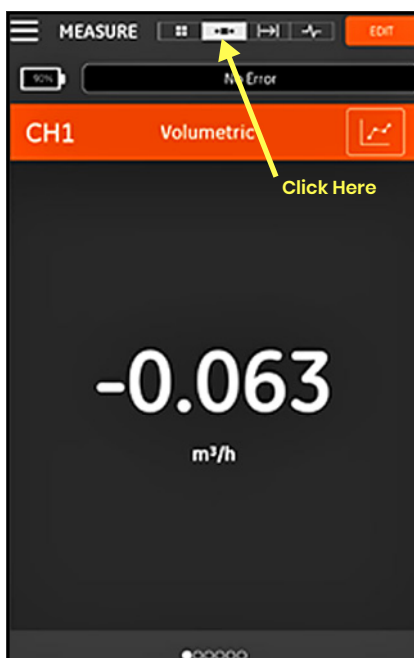

Figure 108: Single Measurement Screen
To change the screen to a one-measurement display (see *Figure 108 below*), click the  icon. In this mode, one measurement is displayed at a time and you can switch between available measurements by swiping across the screen left or right.
- The default one-measurement display is the numeric value of the real-time measurement, as shown in *Figure 108*.